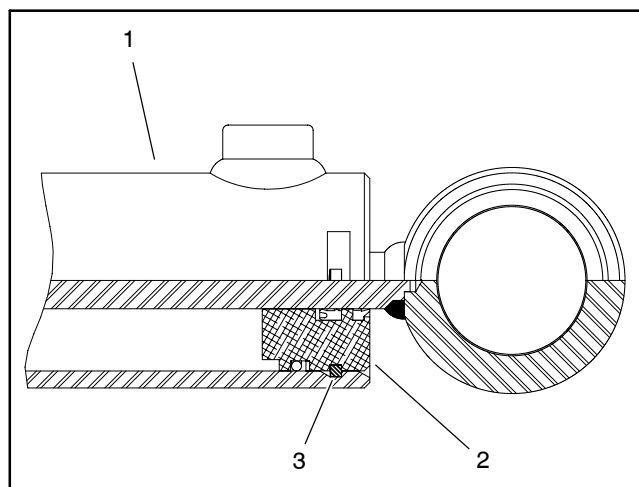

Figure 85
B. On cylinders with a retaining ring (Fig. 85), use a spanner wrench to rotate head clockwise until the edge of the retaining ring appears in the barrel opening. Insert a screwdriver under the beveled edge of the retaining ring to start the retaining ring through the opening. Rotate the head counter-clockwise to remove retaining ring from barrel and head.
B. On cylinders with a retaining ring (Fig. 85), align retaining ring hole in the head with the access slot in the barrel. Insert the retaining ring hook into the hole and rotate head clockwise until the retaining ring is completely pulled into the barrel and the ring ends are covered.